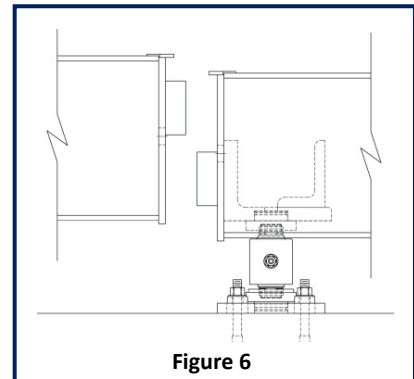

Figure 6
5. Once identified, prepare to lift. **BEFORE YOU LIFT!** Safely rig the scale module with the provided lifting points on the side of the scale. **DO NOT LIFT BY SUBFRAME or RUBRAIL**, the module and sub-frames are secured together with shipping brackets. Place the left end module next to the center module such that the load blocks of the left end module is bearing down on the load blocks of the center module. Be sure the two modules are square with each other and aligned on the center line of the scale. See Figure 6.